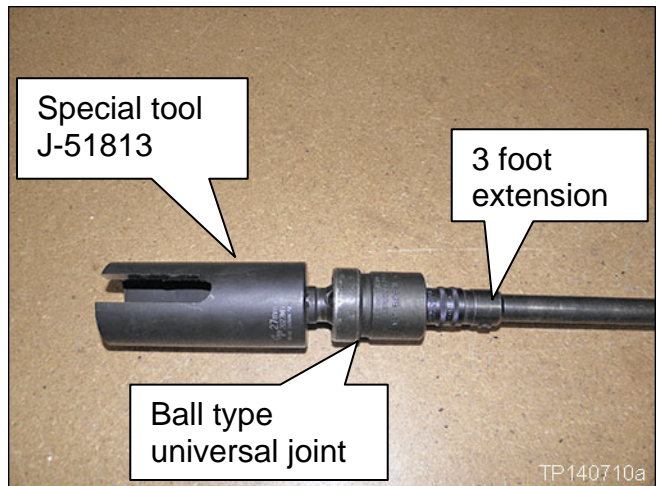

Figure 6
8. Prepare special tool J-51813 as shown in Figure 6: